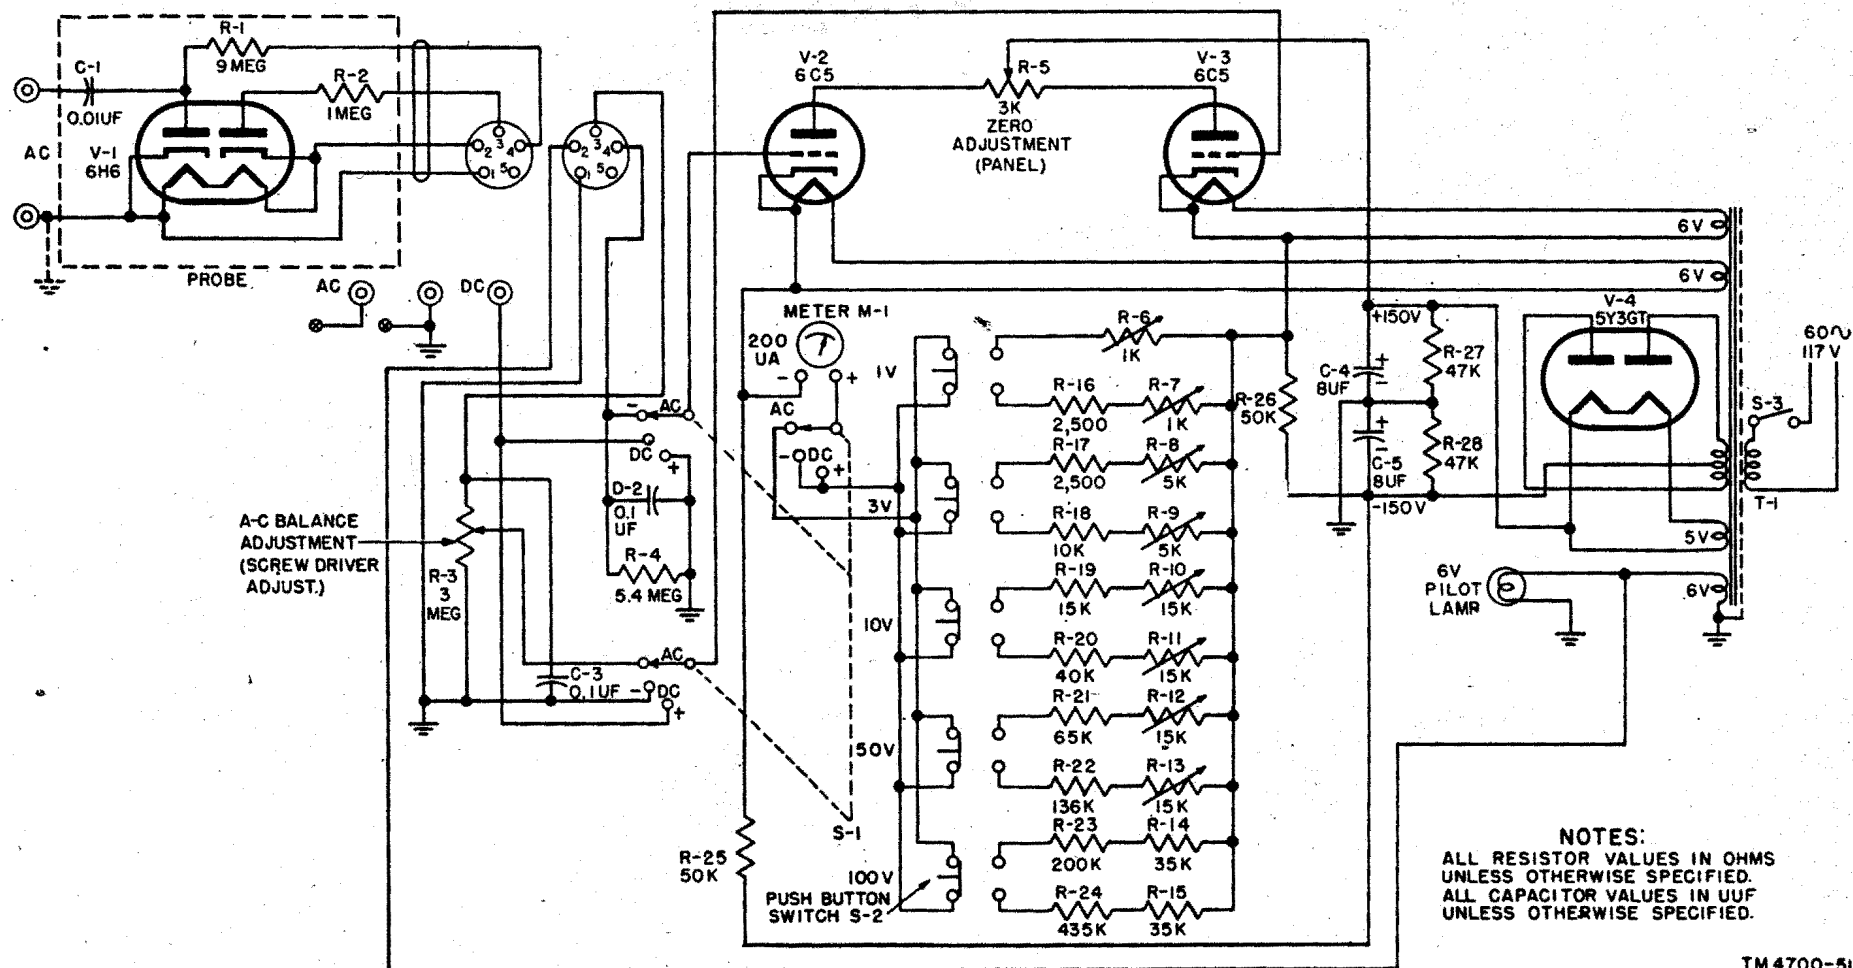

Figure 52. Voltmeter TS-363/U, schematic diagram.
49. Voltmeter TS-363/U, TM 11-1239 (fig. 52)
- (5) Preset adjustments are provided for all a-c and d-c ranges except the 100-volt range. The adjustable resistors (fig. 52) for the various ranges are as given in the table below.